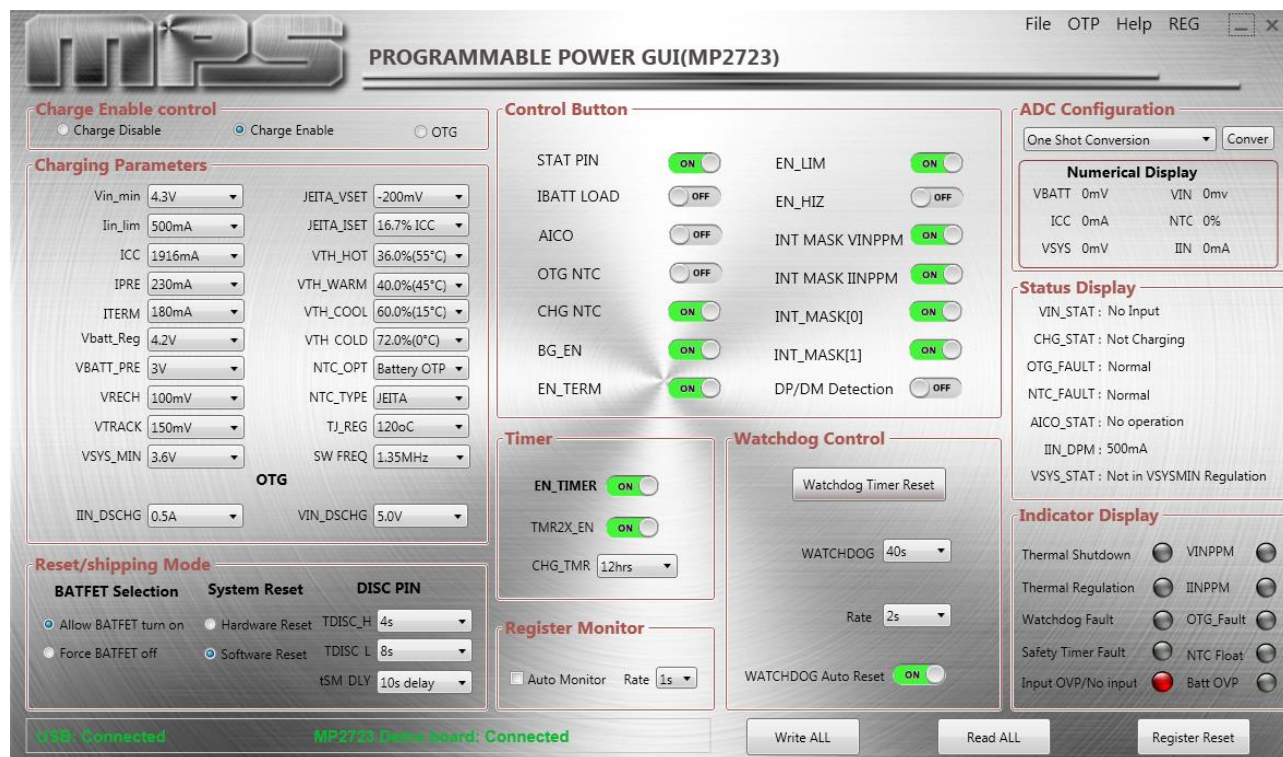

Figure 7: Connected USB and MP2723 Demo Board
- If the connection is successful, both the USB and MP2723 demo board statuses will be listed as “Connected” (see Figure 7).
2. Click the “Read All” button to read the I²C register values. The default values are displayed (see Figure 7).